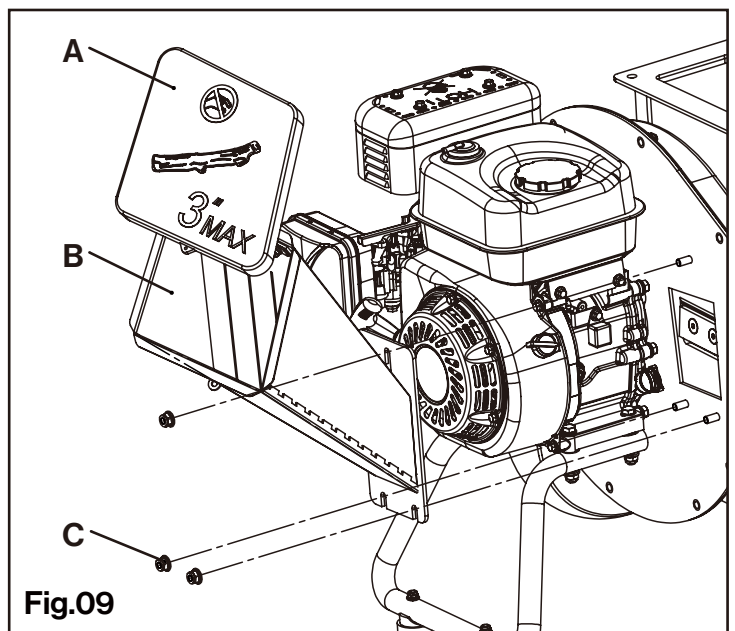

Fig.09
## Inspect Chipping Knives (See Fig.09)
2. Remove the nuts securing the side chute to the front of the chipper. Remove the side chute to access the knives. (See Fig.09)